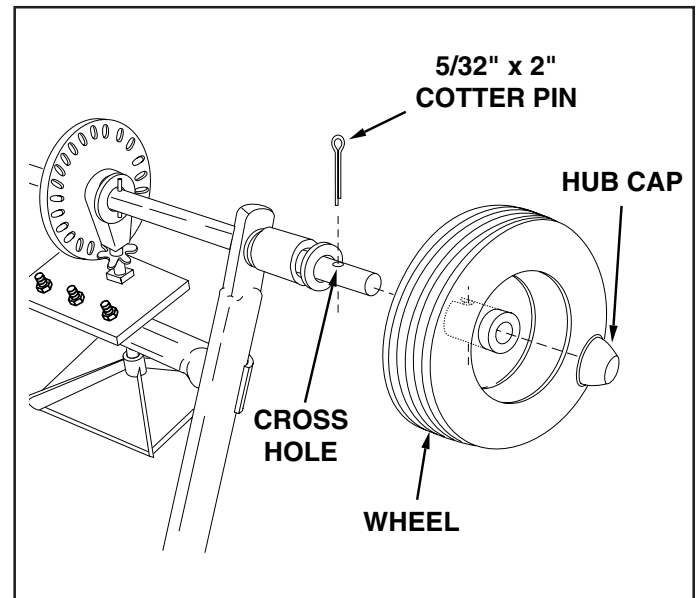

FIGURE 5
5. Place a wheel onto the end of the axle that has a cross hole. The long end of the hub goes to the inside. See figure 5.
6. Assemble a 5/32" x 2" cotter pin through the notched wheel hub and the axle. See figure 5.
7. Lightly tap a hub cap onto the axle until it is snug against the wheel. See figure 5.
3. If for any reason the axle, gear and sprocket assembly is disassembled, be sure to mark position of parts as they are removed. The positions of the drive wheel and sprocket in relation to the slotted plastic gear determine which direction the spreader plate will spin. Be sure to reassemble them in their original positions. (Refer to figure 5 on page 4.) With the reassembly of the gear and sprocket, use shim washers (Ref. no. 21 on page 10) as needed for minimum backlash. Add grease to gear and sprocket.